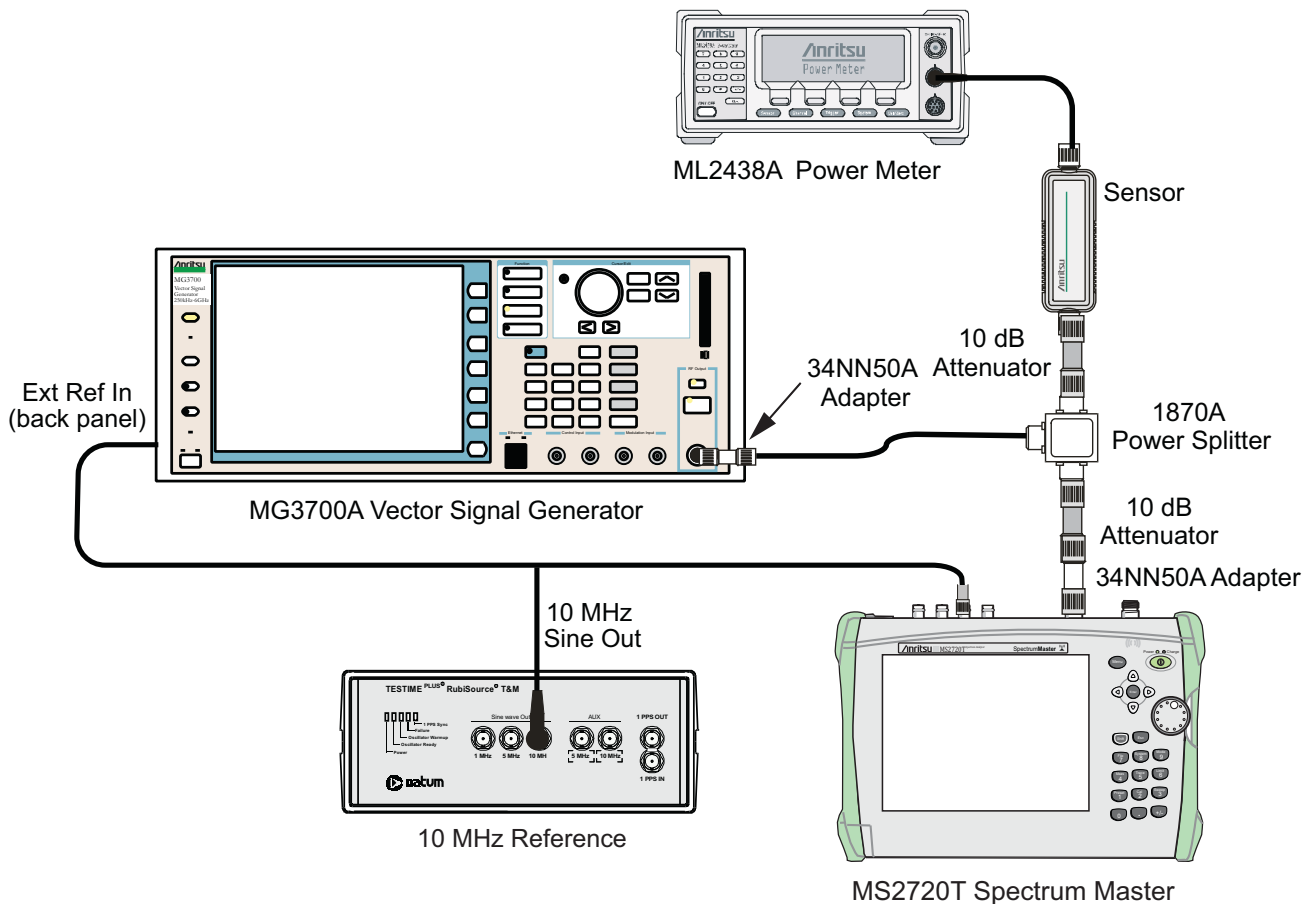

Figure 3-13. Fixed WiMAX Signal Analyzer, Test Setup
4. Connect the Power Sensor, 1870A splitter, and 10 dB attenuators (quantity 2) as shown in Figure 3-13.
4. Connect the Power Sensor, 1870A splitter, and 10 dB attenuators as shown in Figure 3-13.